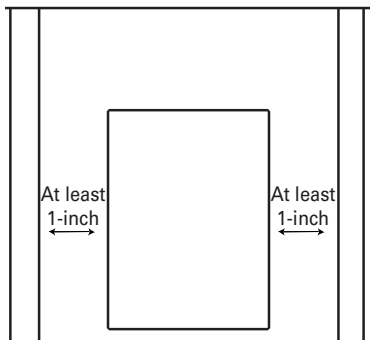

Figure 9: Use Wall Template
2. Use the supplied template to trace an outline to mark the desired location to mount the speaker system. Use caution to cut the hole approximately centered between wall studs, allowing at least 1 inch between the cutout and wall studs, as shown in Figure 9. Use a carpenter's level to ensure a level measurement.